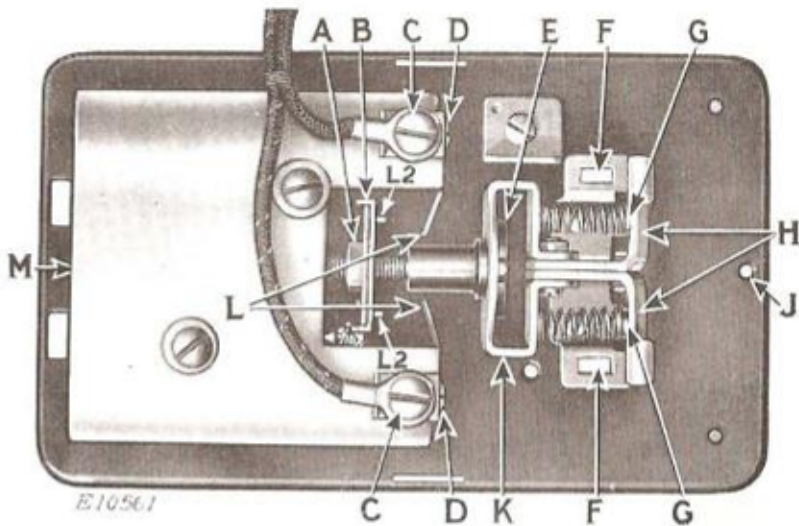
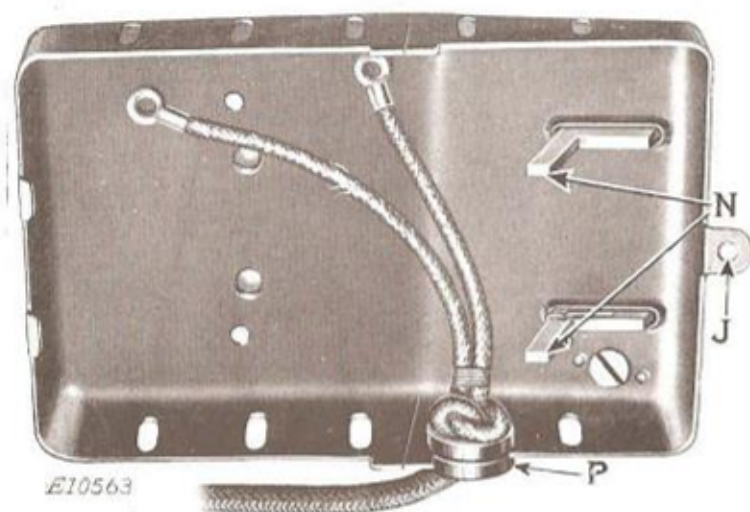

FIG. 11. EMERGENCY ADJUSTMENT OF CARBON CONTROLLER
FIG. 12. VIEW OF INSIDE OF CONTROLLER COVER
Operate the pedal of the foot controller to make sure that the mechanism does not bind. Remove the cover from the controller unit as instructed in paragraph 3, page 13, and inspect the wires and connections at (C, Fig. 11).
(SEE FIG. 11)
Take out the screw at (J, Figs. 11 and 12) and remove foot controller cover, by gently lifting up, and pushing it toward the rear.
(a)—With the bell crank (H, Fig. 11) at the “off” position against the posts (G) of the spring bracket, the face of the bakelite strip, between nut (A) and cross slide (B), should be  $\frac{5}{16}$  inch from the flat face of the porcelain as shown by Fig. 11. If the distance is not  $\frac{5}{16}$  inch, release the insulated nut (E) from its seat by pushing on the end of the pull rod at (M) and turn the nut (E) until the correct adjustment is obtained. Be sure that the nut (E) seats in the yoke (K).
Fig. 12) and insert them through the two slots (F, Fig. 11) in the spring bracket. Also put the bushing (P, Fig. 12) in place in the cut-out in the side of the foot controller cover, as shown by Fig. 12.
When the cover is properly in place, insert and tighten screw at (J, Figs. 11 and 12).